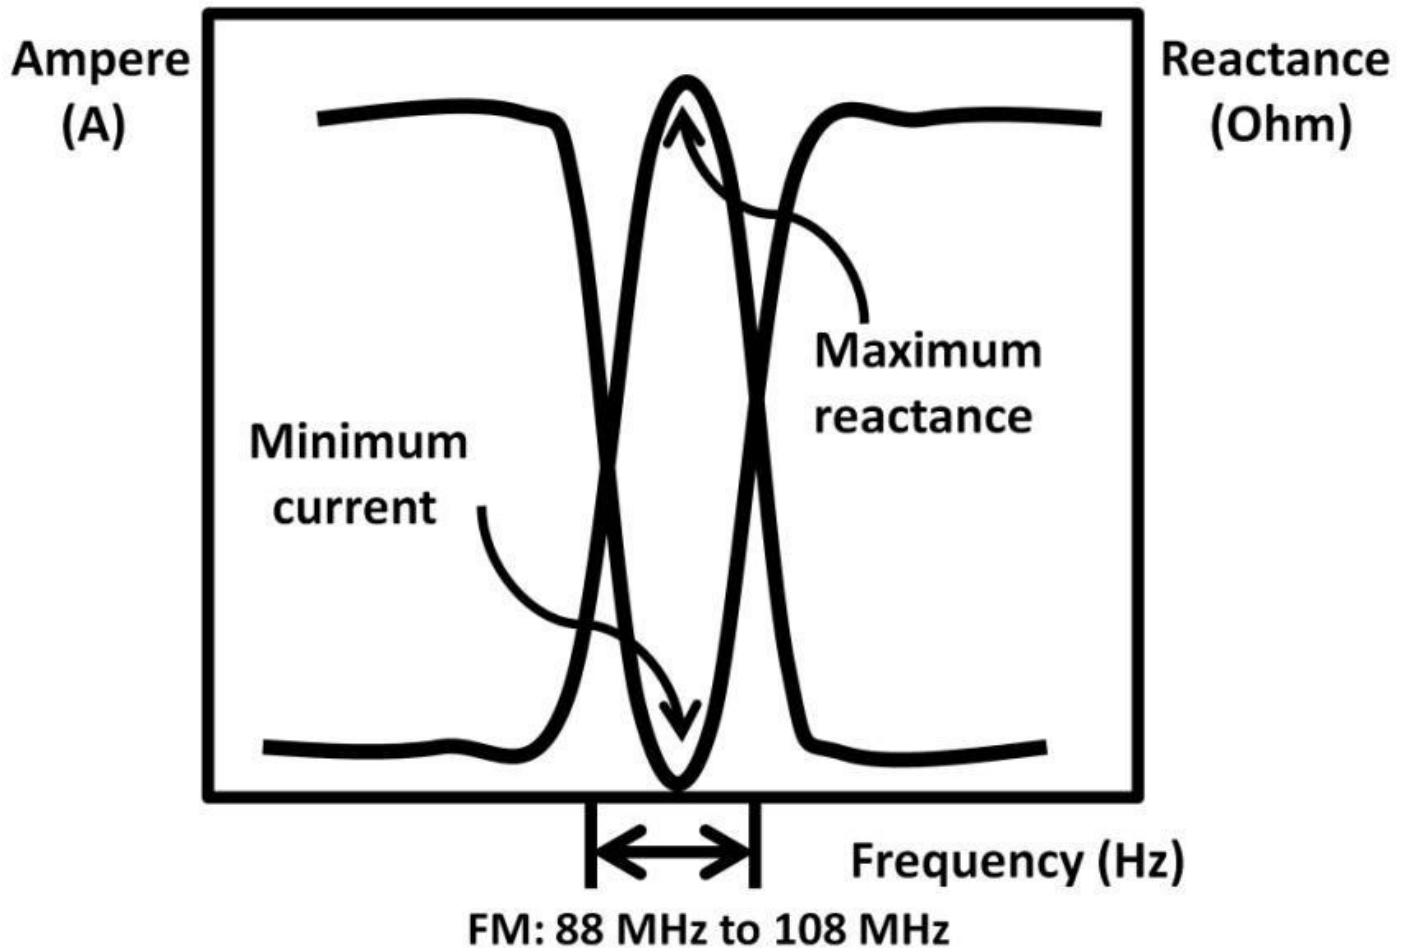

Figure 6.1b: Band-stop filter in FM receiver
On the receiver side, the same technique can be used to filter signals outside of a specific frequency range called a band-stop. Figure 6.1b shows the frequency response of frequency modulated (FM) bandwidth. FM will be further discussed later in the chapter. In figure 6.1b, it shows that the FM bandwidth is limited between 88 MHz to 108 MHz by band-stop filter.